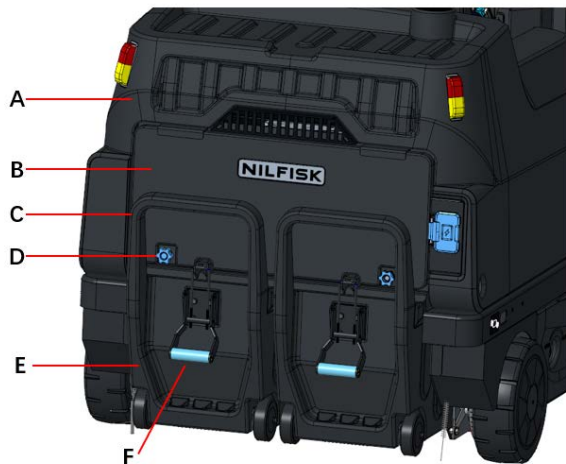

Figure 62
3. Remove the cover (A, Figure 62)
4. Disengage the latch (F, Figure 62) by pulling its lower end.
5. Remove the hopper (E, Figure 62) by disengaging it from the inner guides with the handle (C, Figure 62).
6. Unscrew the knobs (D, Figure 62) and remove the filter compartment cover (B, Figure 62).